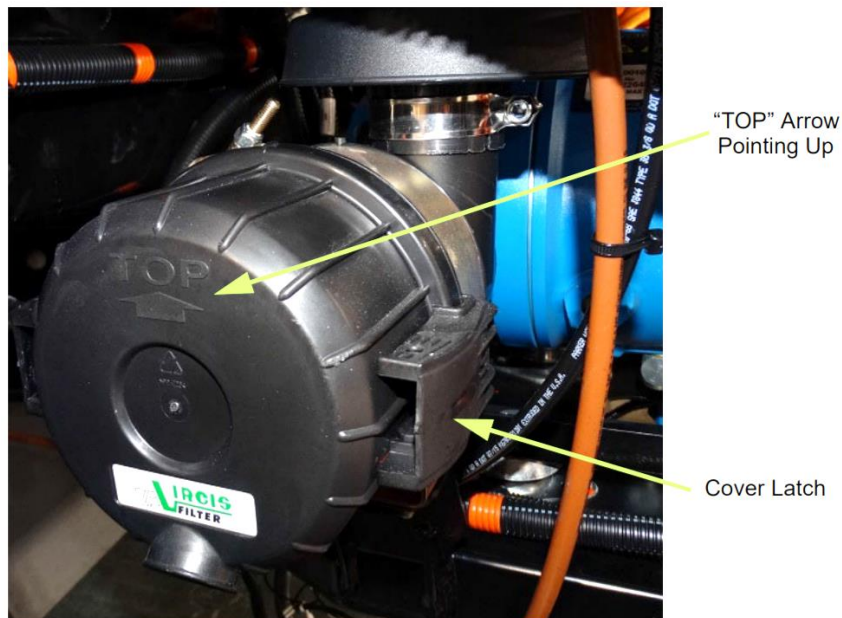

Figure 9: Orientation of Outer Cover of Filter Canister
21. Install the outer cover onto the filter canister, ensuring that it is properly oriented with the “TOP” arrow pointing up as shown in Figure 9, and secure the two latches.